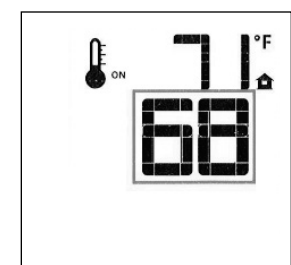

Figure 49.
- To adjust the Set Temperature, press the Up or Down Arrow Keys until the desired Set Temperature is displayed. Fig. 49.